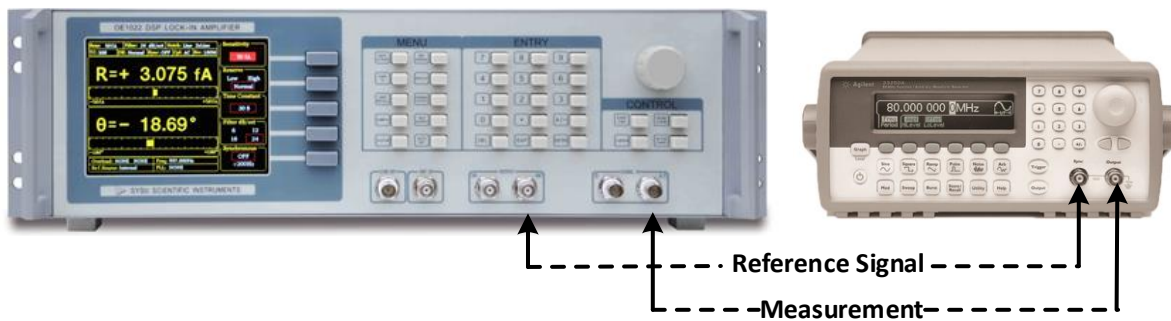

Fig.86 Signal Cable Connection Diagram.
2. Use a BNC cable to connect the output of the function signal generator and the A input of the OE2031. Use another BNC cable to connect the reference signal of the function signal generator and the REF IN of the OE2031, as is shown in Fig.86.